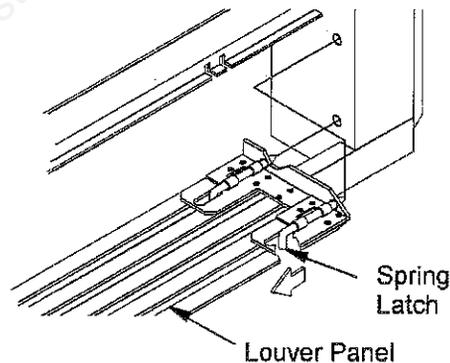

Figure 1 - Removing Louver Panel
1. Remove upper and lower louver panels by pulling 4 spring latches toward center while pulling louver assembly away from unit. Latches are located 2 at each end of louvers (see Figure 1).